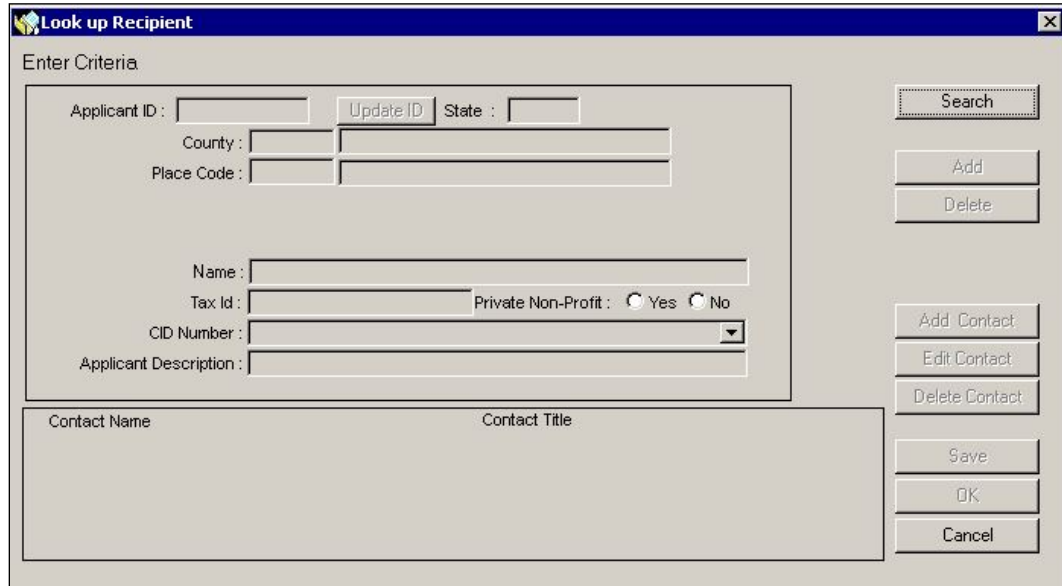

Figure 3-21: Look Up Recipient Window
1. On the **Recipient Information** tab, click the NEW button. The Look up Recipient window is displayed (Figure 3-21).